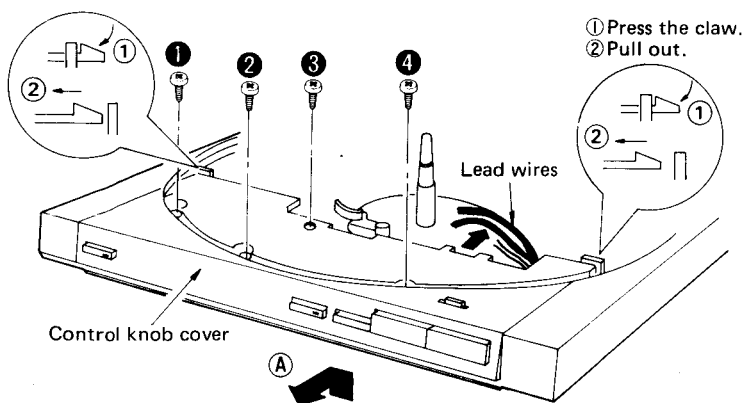

Fig. 6
2. Remove the 4 setscrews (Fig. 6: ① ~ ④) of the cover.
3. Remove the lead wires from the claws. (Fig. 6)
4. Release the 4 claws of the cover from the main cabinet. (Fig. 6, 7)
5. Remove the cover in the direction of arrow A. (Fig. 6)